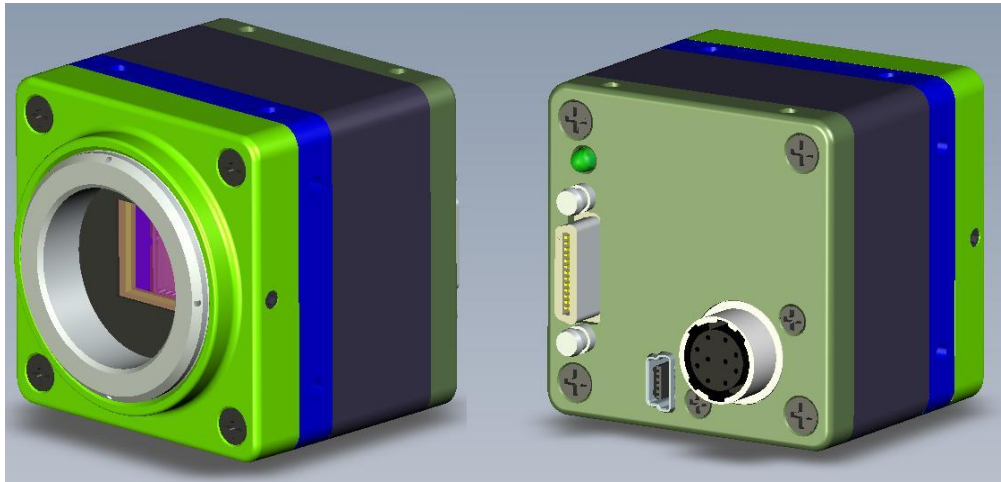
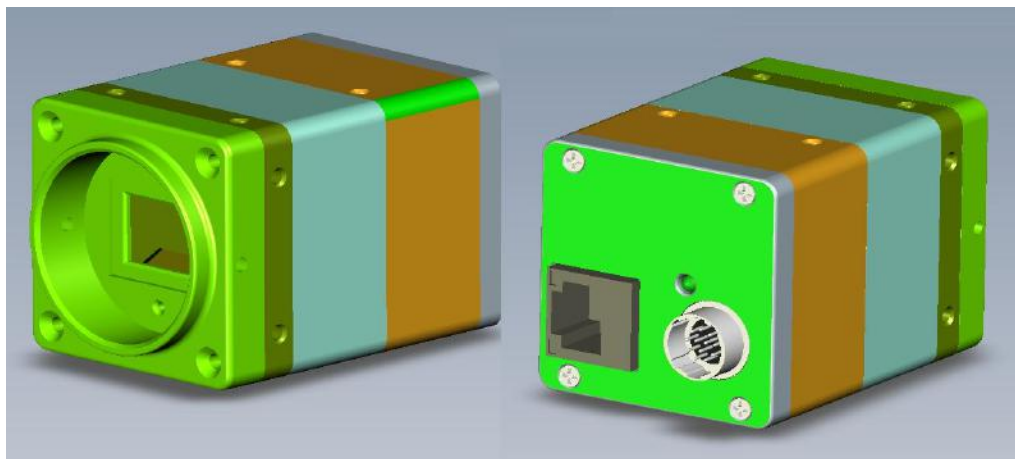

Figure 1.7a – C-mount camera link cameras.
Figure 1.7b – C-mount GEV cameras.
The camera housing is manufactured using high quality zinc-aluminum alloy and anodized aluminum. For maximum flexibility the camera has twelve (12) M3X0.5mm mounting, located towards the front and the back. An additional plate with 1/4-20 UNC (tripod mount) and hardware is shipped with each camera. Figure 1.7a, 1.8a show the C-Mount camera link cameras and Figure 1.7b, 1.8b – C-Mount GEV cameras respectively. All dimensions are in millimeters.